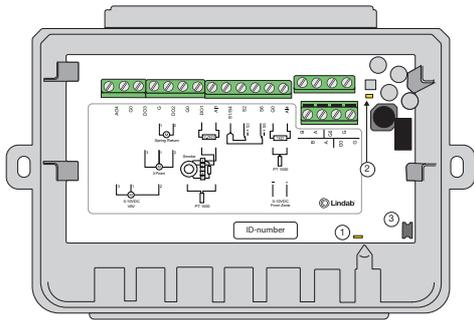

Figure 2. Inside the Pro-S. 1= LED light for identification, 2= LED light for communication, 3= Push button
It's possible to reset the device to factory settings via the button, see *Figure 2*.
- 1. Push and hold the button for 10 seconds. LED 1 (Figure 2) will turn red.